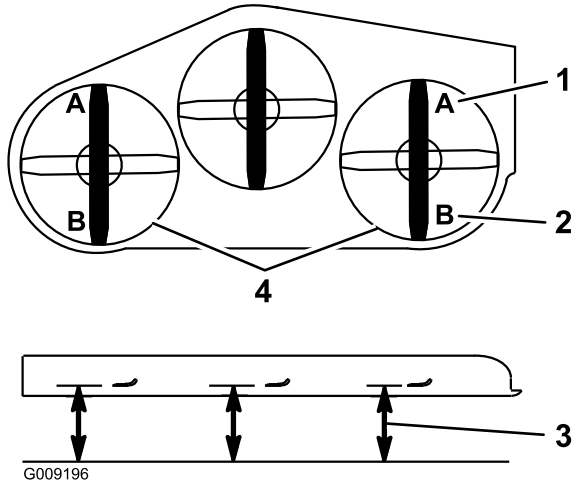

Figure 86
9. On both sides of the deck, measure from the level surface to the front tip of the blade (Position A). The measurement should read 3 inches (7.6 mm) (Figure 86).
- On both sides of the deck, measure from the level surface to the back tip of the blade (Position B). The measurement should read 3 1/4 inches (8.3 cm) (Figure 86).